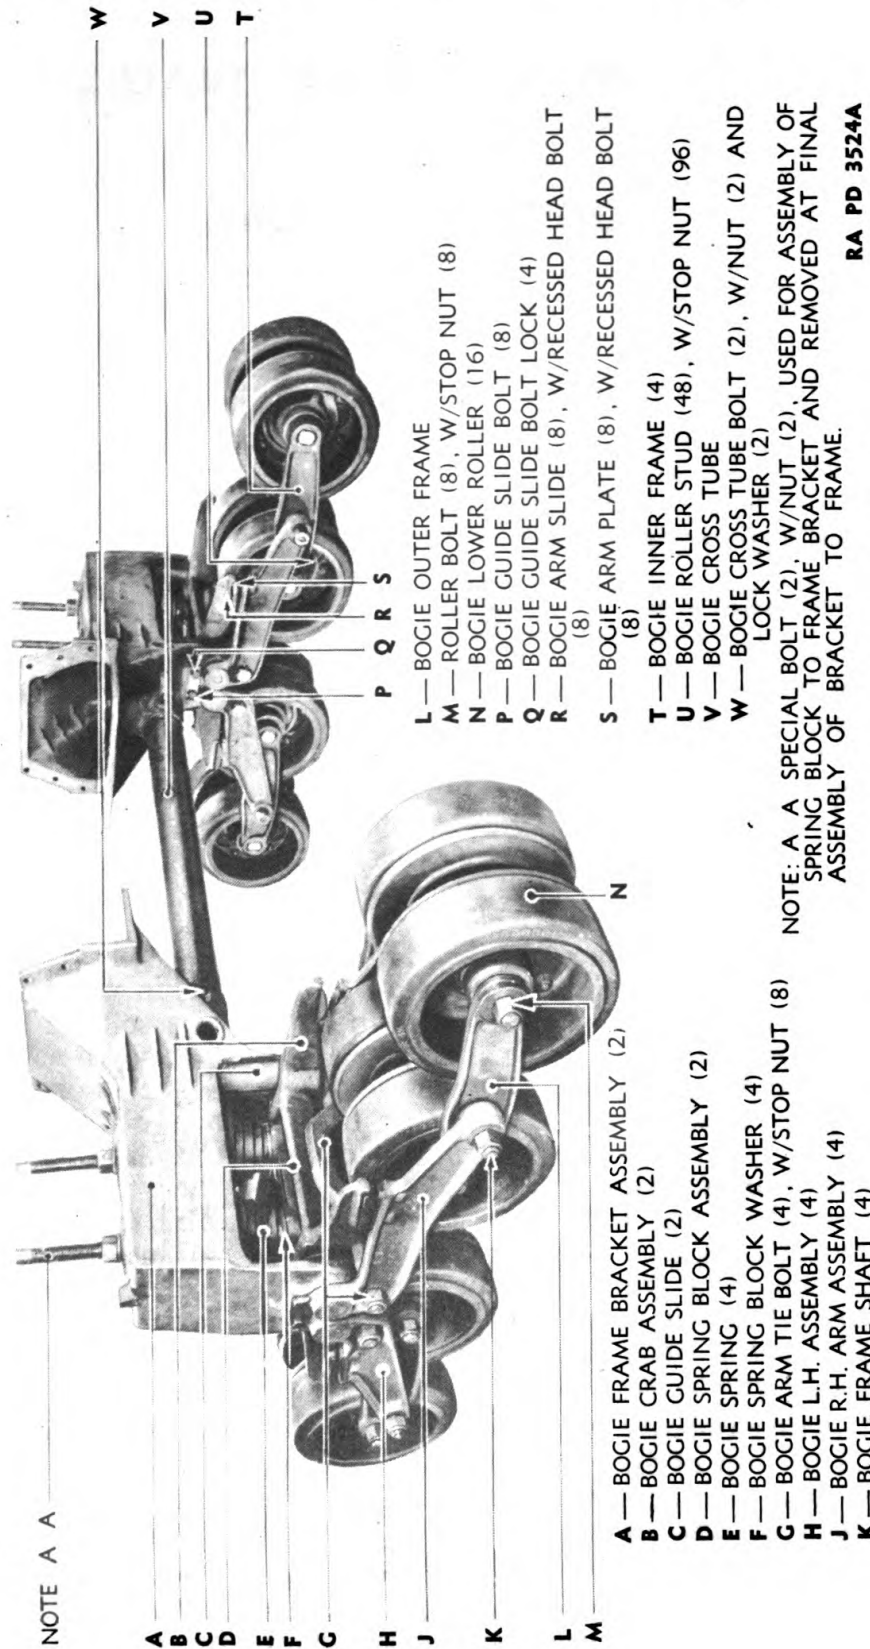

Figure 11 — Bogie Assembly — Removed
(1) **BOGIE** (fig. 11). The bogie suspension consists of a bracket which is bolted to the frame and which has guide slides for the crab assembly bolted to the inner sides. The crab contains a gudgeon pin, the ends of which are pinned to the guide slide blocks. This pin carries the bushing-mounted spring block that supports the dual volute springs. To each of the four feet of the crab is bolted a hardened steel slide which rests on hardened steel plates bolted to the side carrying arms. The carrying arms are steel forgings having a trunnion welded to one end and the other end bolted to the bogie roller frame. The trunnion rests in a bushing in the hole in the bogie frame bracket and is held in place by the tie-bolt and safety nuts. The bogie wheels are of steel and have a rubber tire molded onto them. The wheels are bolted to a welded hub and flange by means of threaded studs which are welded into the flange. The hubs are mounted on gudgeon bolts and are fitted with tapered roller bearings, spacers, and seal retainers. Grease seals are provided on the roller frames. The wheel gudgeons are threaded on one end for a self-locking nut, and the other end is rectangular to fit into a rectangular recess in the opposite, or inner frame. The frames are held rigid by a spacer shaft, which also carries the side carrying arms. The bogies are held in alignment by means of a tubular cross support which connects the bogie frame brackets.